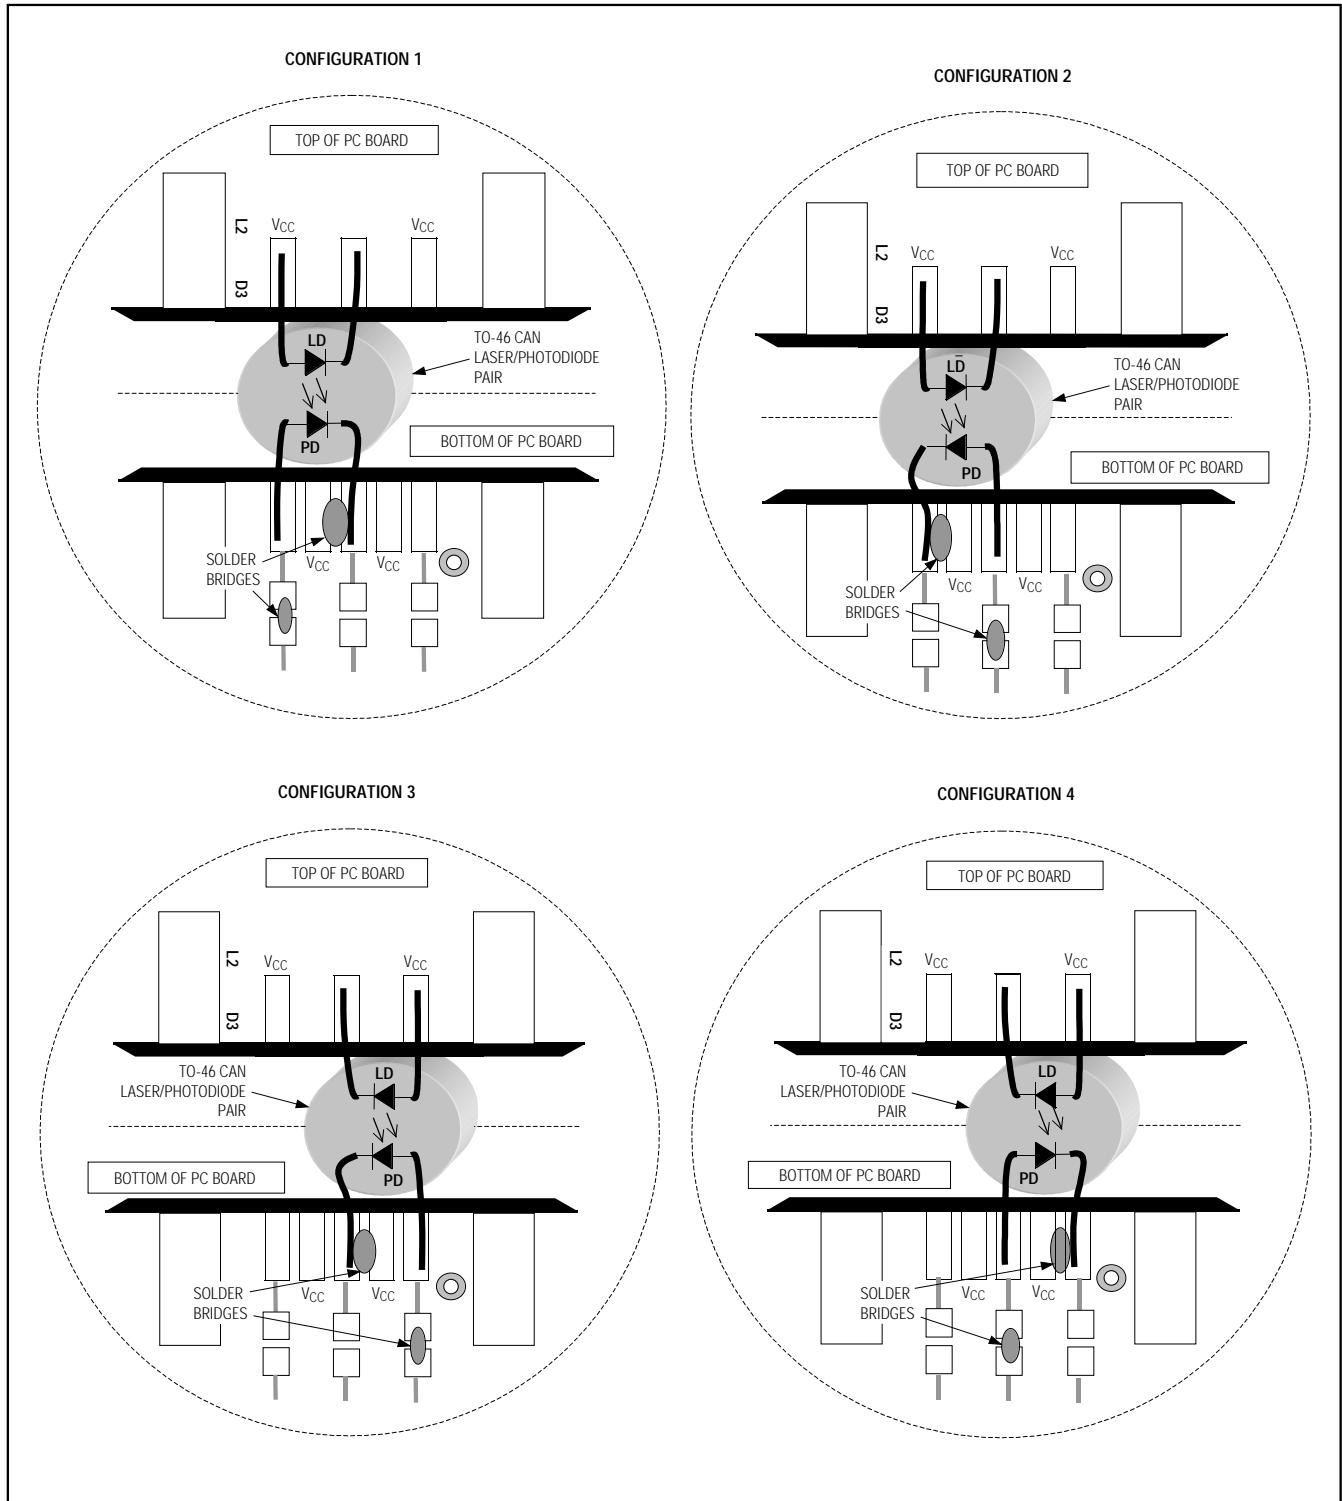

Figure 1. Attachment of Laser Diode/Monitor Diode to MAX3669 EV Kit
- 2) Connect a TO-style header laser and monitor diode (Figure 1) as follows:
\* TO PHOTOLASER (SEE FIGURE 1 FOR PHOTOLASER CONNECTION).